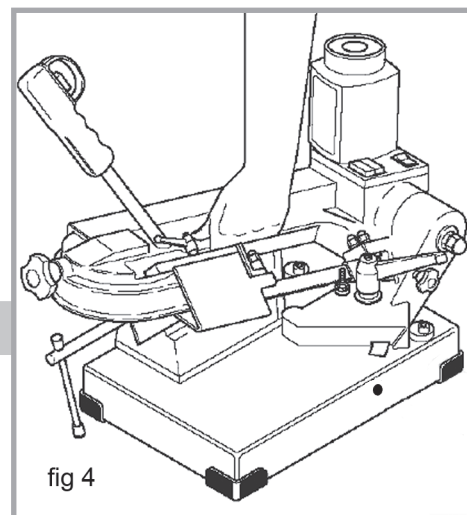

fig 4
- Lift the machine as illustrated (fig 4).